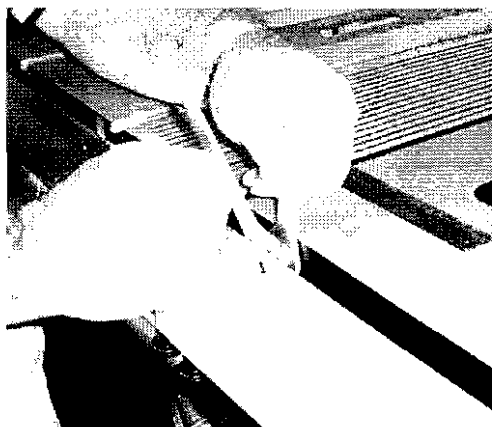

Figure 5
4. Use a 9/16" Open-end Wrench and the 3/4" Open-end Wrench to tighten the Jam Nuts (5) in the ends of the Front Rail Assembly. (See Figure 5)